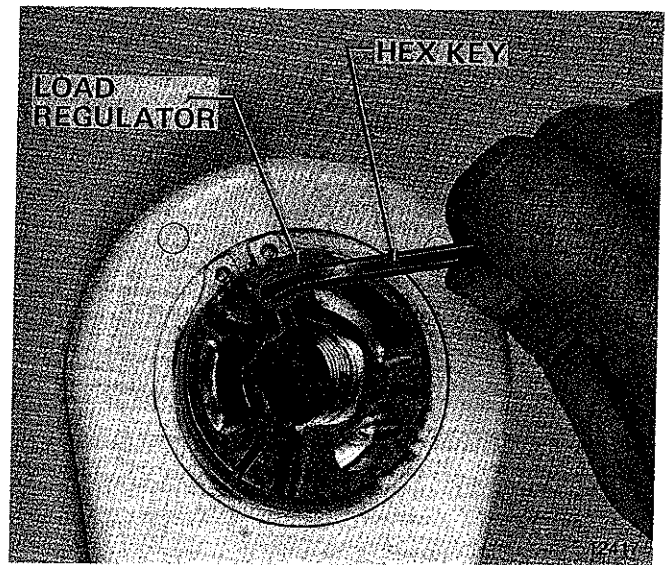

Figure 7-1. Load Regulator
a. Remove hand wheel per instructions in paragraph 6-7 of this Manual. This exposes Load Regulator for adjustment as shown in Figure 7-1.